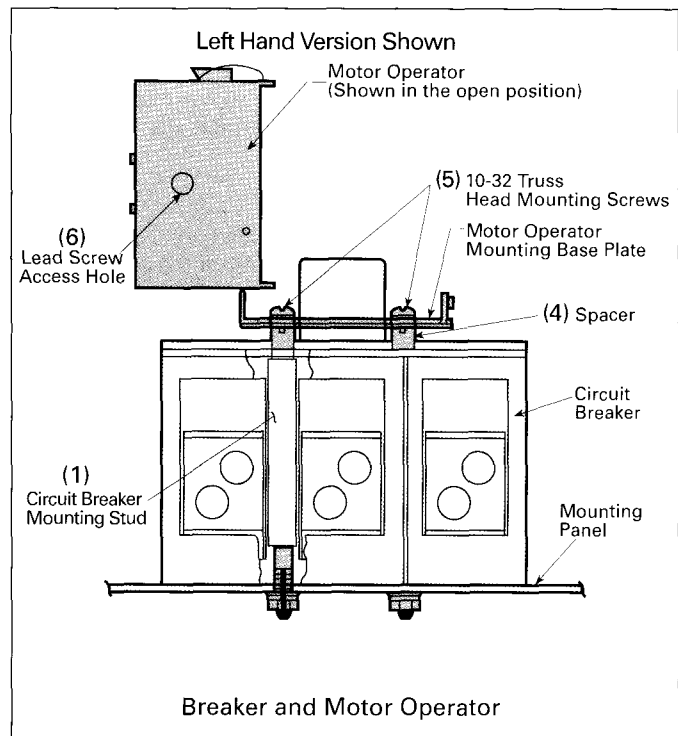

Figure 2
- B. Attach the circuit breaker to its mounting surface using the mounting hardware **(1)** supplied with the motor operator (Figure 2).
- E. Open the motor operator cover and attach the motor operator to the circuit breaker using the spacers **(4)** and screws **(5)** provided (Figure 2).
- F. With the circuit breaker handle in the OFF position, align the motor operator mechanism rollers (indicator to be in OFF position) and the circuit breaker handle by rotating the lead screw (6) with a screwdriver. The lead screw access hole is at the bottom of the motor operator (Figure 2).